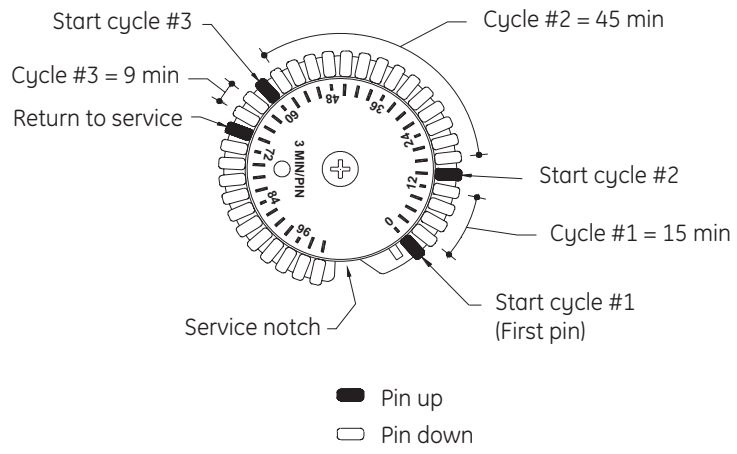

Figure 1 Typical Pinwheel Setting
2. Pull up on the first pin (Start Cycle #1) of the pinwheel to mark the start of the regeneration sequence (see Figure 1).